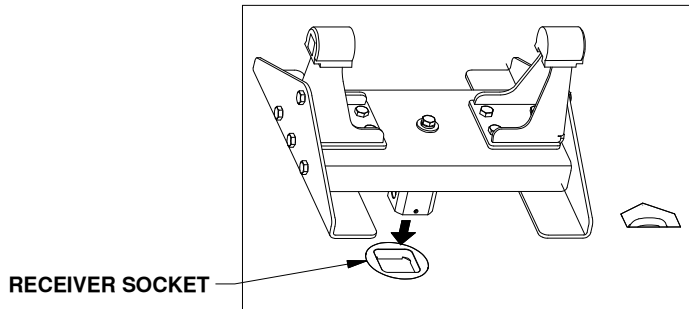

Figure C2: View over truck bed.
- Carefully lift and position the Companion base into the receiver hitch socket in the back of the truck bed as shown in Figure C2.